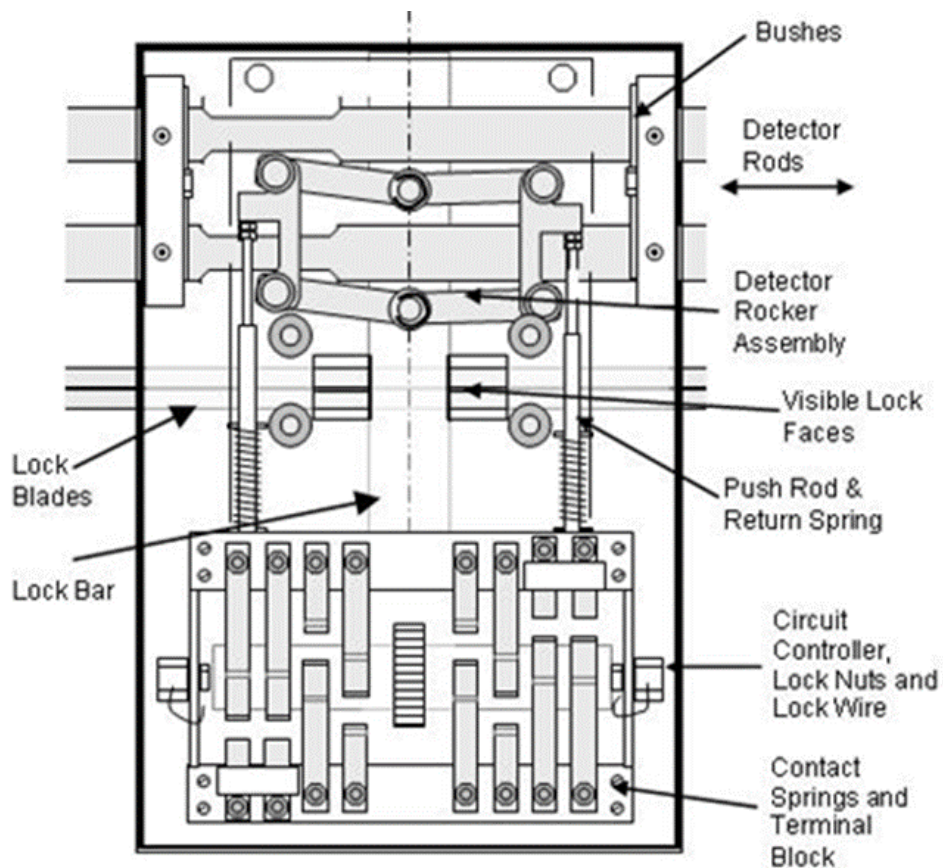

Figure 2 - Lock and Detection Assembly
6. Detector & Lock Assembly (See Figure 2)